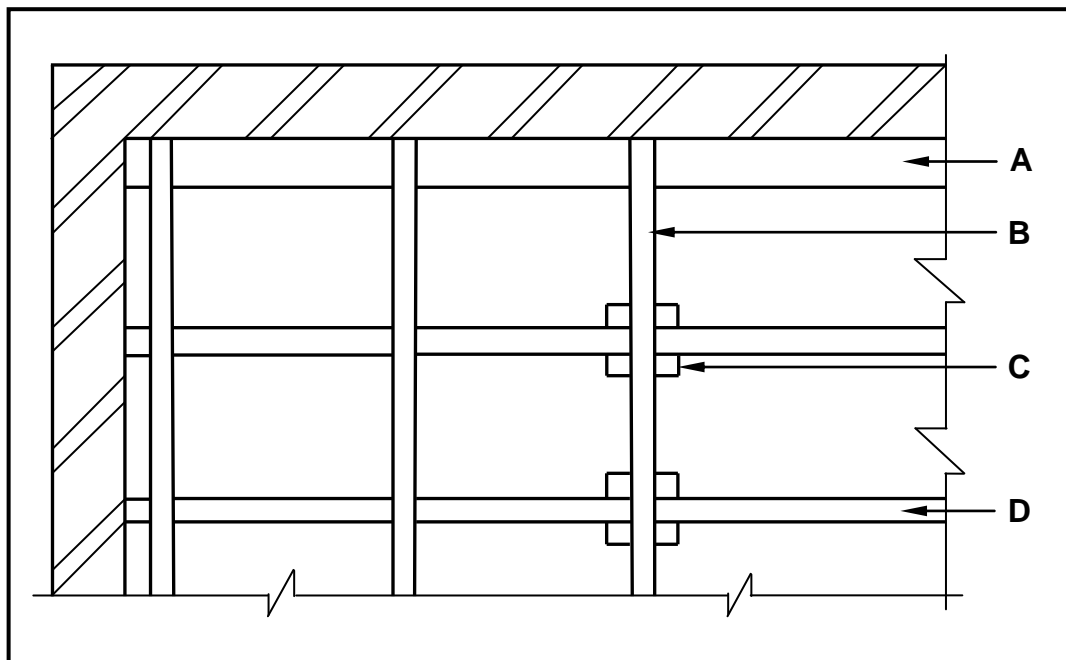

FIGURE 6.9
- 6.9 FIGURE 6.9 below shows a part of the top view of a suspended timber floor.
- 6.9.2 Draw on ANSWER SHEET 6.9.2 where the detail of the suspended floor in FIGURE 6.9 has been omitted, FOUR tongue and groove floorboards. The tongue and groove boards must run in length parallel to the long wall. NO hidden details are required. (4)